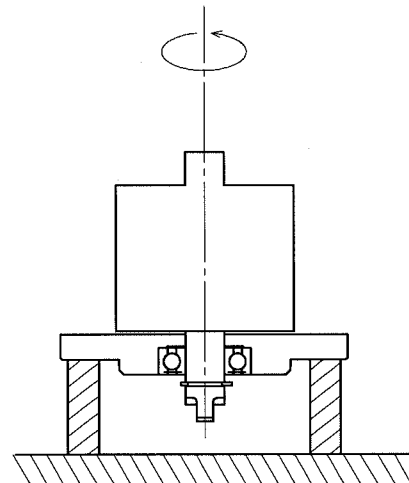

Fig.14
③ Remove Cylinder(69) and Vanes(70).
④ Take off Rotor(67) from the vice.
Place Rotor(67) with End plate(65) facing downwards as shown in Fig. 14, and check Rotor rotates smoothly.